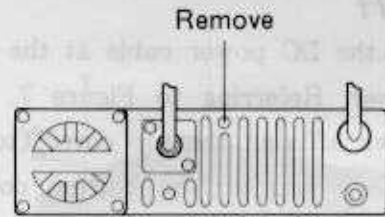

Figure 1
1. Disconnect the power cable at the rear of the transceiver. Referring to Figure 1, remove the rear panel screw affixing the top cover, and then the cover.